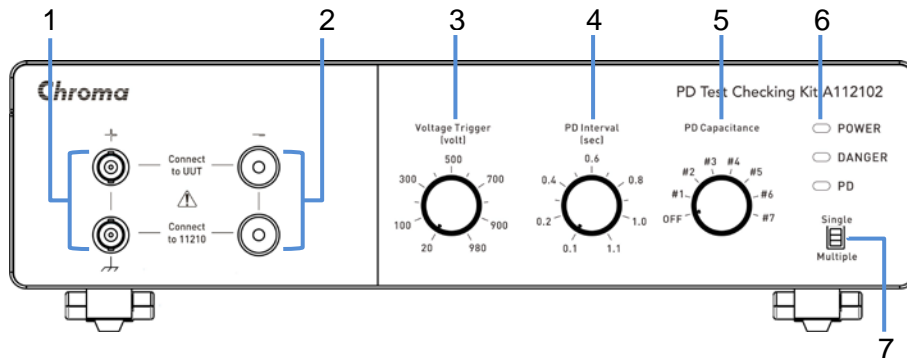

Figure 8-1 Connection for PD Simulation
The A112102 front panel has 4 voltage input terminals that are composed of two equipotential BNC terminals and two equipotential concave terminals. The lower connectors can use the enclosed test cables to connect to the 11210 leakage current test terminals while the other two connectors can connect to the DUT. **Make sure that the DUT polarity is correctly connected.** The DUT negative terminal should connect to the A112102 HV(-) red concave terminal, and the positive terminal should connect to the A112102 HV(+) BNC terminal as shown in *Figure 8-1*.
There are two equipotential BNC terminals where the lower one connects to the 11210 current test terminal and the upper one connects to the DUT. See *Figure 8-1* for the cable connecting diagram.
(2) Voltage Input Terminal (-)
There are two equipotential concave terminals where the lower one connects to the 11210 current test terminal and the upper one connects to the DUT. See *Figure 8-1* for cable connecting diagram. As the terminal input voltage is very high [V (DC) = 0V ~ -1000V], be aware of high voltage hazard
The 11210 needs to install A112100 or A112101 interface card to connect with the A112102. See cable connection shown in Figure 8-1.